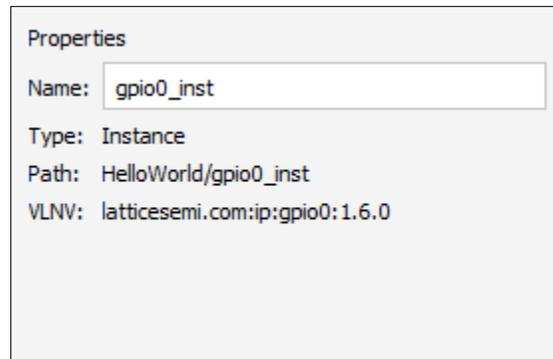

Figure 2.44. Object Properties
1. Select the object from List view of the Design View. Information of the selected object is shown in the **Properties** area (Figure 2.44).